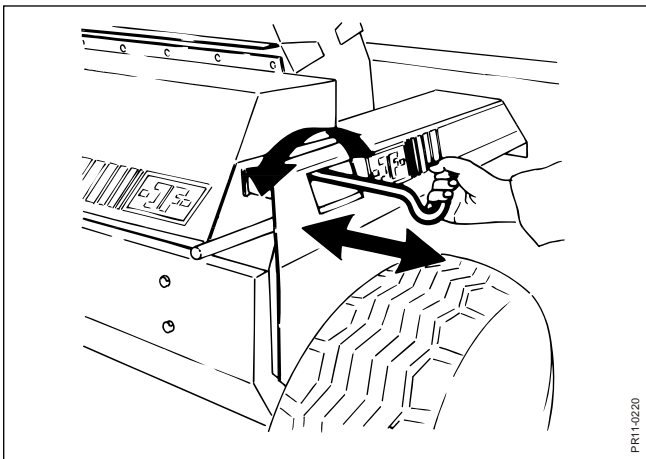

Fig. 4.14
- Fig. 4.14** 6. Take the handle and carefully give some feeding until the stone touches the knife. Run the grindstone over the whole knife and back again. Repeat the feeding and the movement over the width of the rotor.